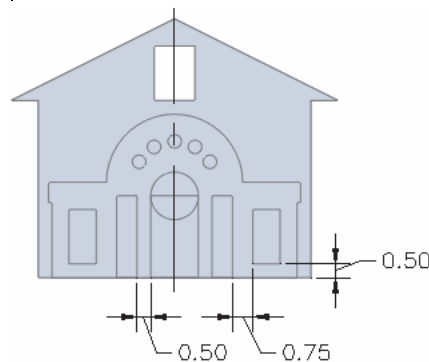

Figure 2-36
7. Move and copy the building blocks as required so that they are arranged on the rest of the solids, as shown in Figure 2-36.